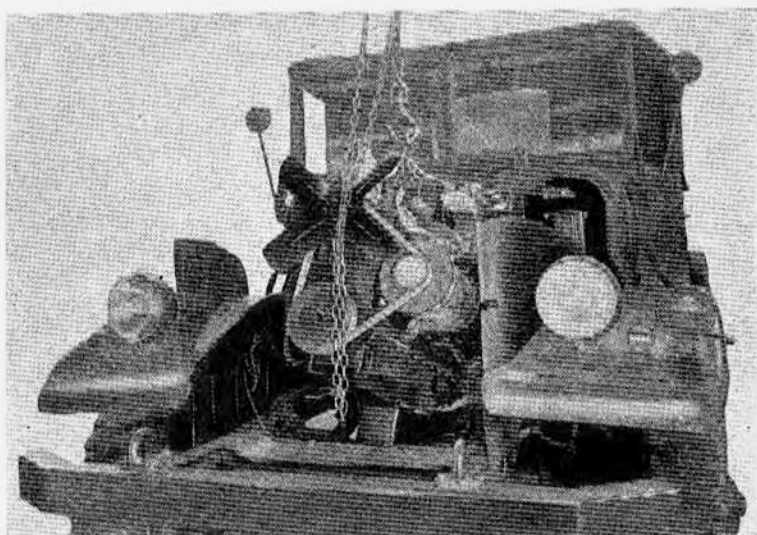

Figure 48 – Removing Engine
- (21) Disconnect speedometer cable at transmission.
- (22) Disconnect transfer shift lever from the right side of transmission.
- (23) Disconnect intermediate shaft at transfer case front universal joint retainer.
- (24) Remove return spring from clutch fork to bracket and remove clutch fork pull rod from clutch fork.
- (25) Disconnect bond strap at front end of clutch housing pull rod. Remove clutch housing pull rod from engine rear support arm left to engine front support bracket left.
- (26) Remove engine under covers, right and left.
- (27) Remove engine rear mounting bolt nuts. On front engine mounting, take out front support spacer after removing nuts from set bolts welded on front end plate.
- (28) Disconnect bond strap from each side of valve rocker arm cover and then remove valve rocker arm cover.
- (29) Remove the fifth cylinder head bolt from the rear on the left side and the third cylinder head bolt from the rear on the right side. Then using engine lifting attachment, raise engine slightly.
- (30) Raise engine enough to separate engine front support member from set bolts welded on front end plate. Remove rear mounting bolts.
- (31) Raise the engine and transmission assembly from the chassis as a unit (Fig. 48).
- (32) Mount engine in engine stand and clamp it securely so that the engine can be turned over when necessary and remove lifting attachment.
- (33) Remove flywheel side cover and clutch housing under cover.